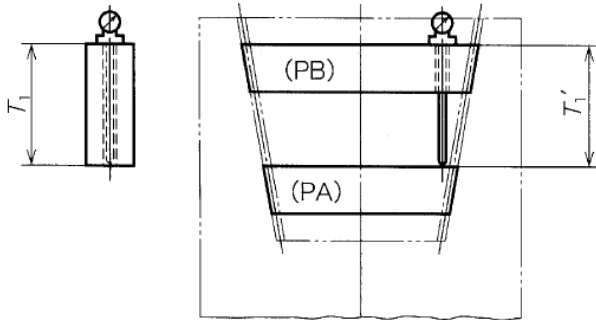

Figure 6 Combination of socket taper measuring gauges
- a) **Measuring method** The value T_1 of a set block gauge shall be measured with a dial gauge. Then, plug gauges PA and PB are fitted to each other with the specified clamping torque as given in figure 6, the space T_1' is measured, and the difference ΔT_1 between T_1' and T_1 is calculated. However, ΔT_1 may be directly measured in the measurement of T_1' by adjusting the scale of the dial gauge to zero point in the measurement of T_1 of the set block gauge.